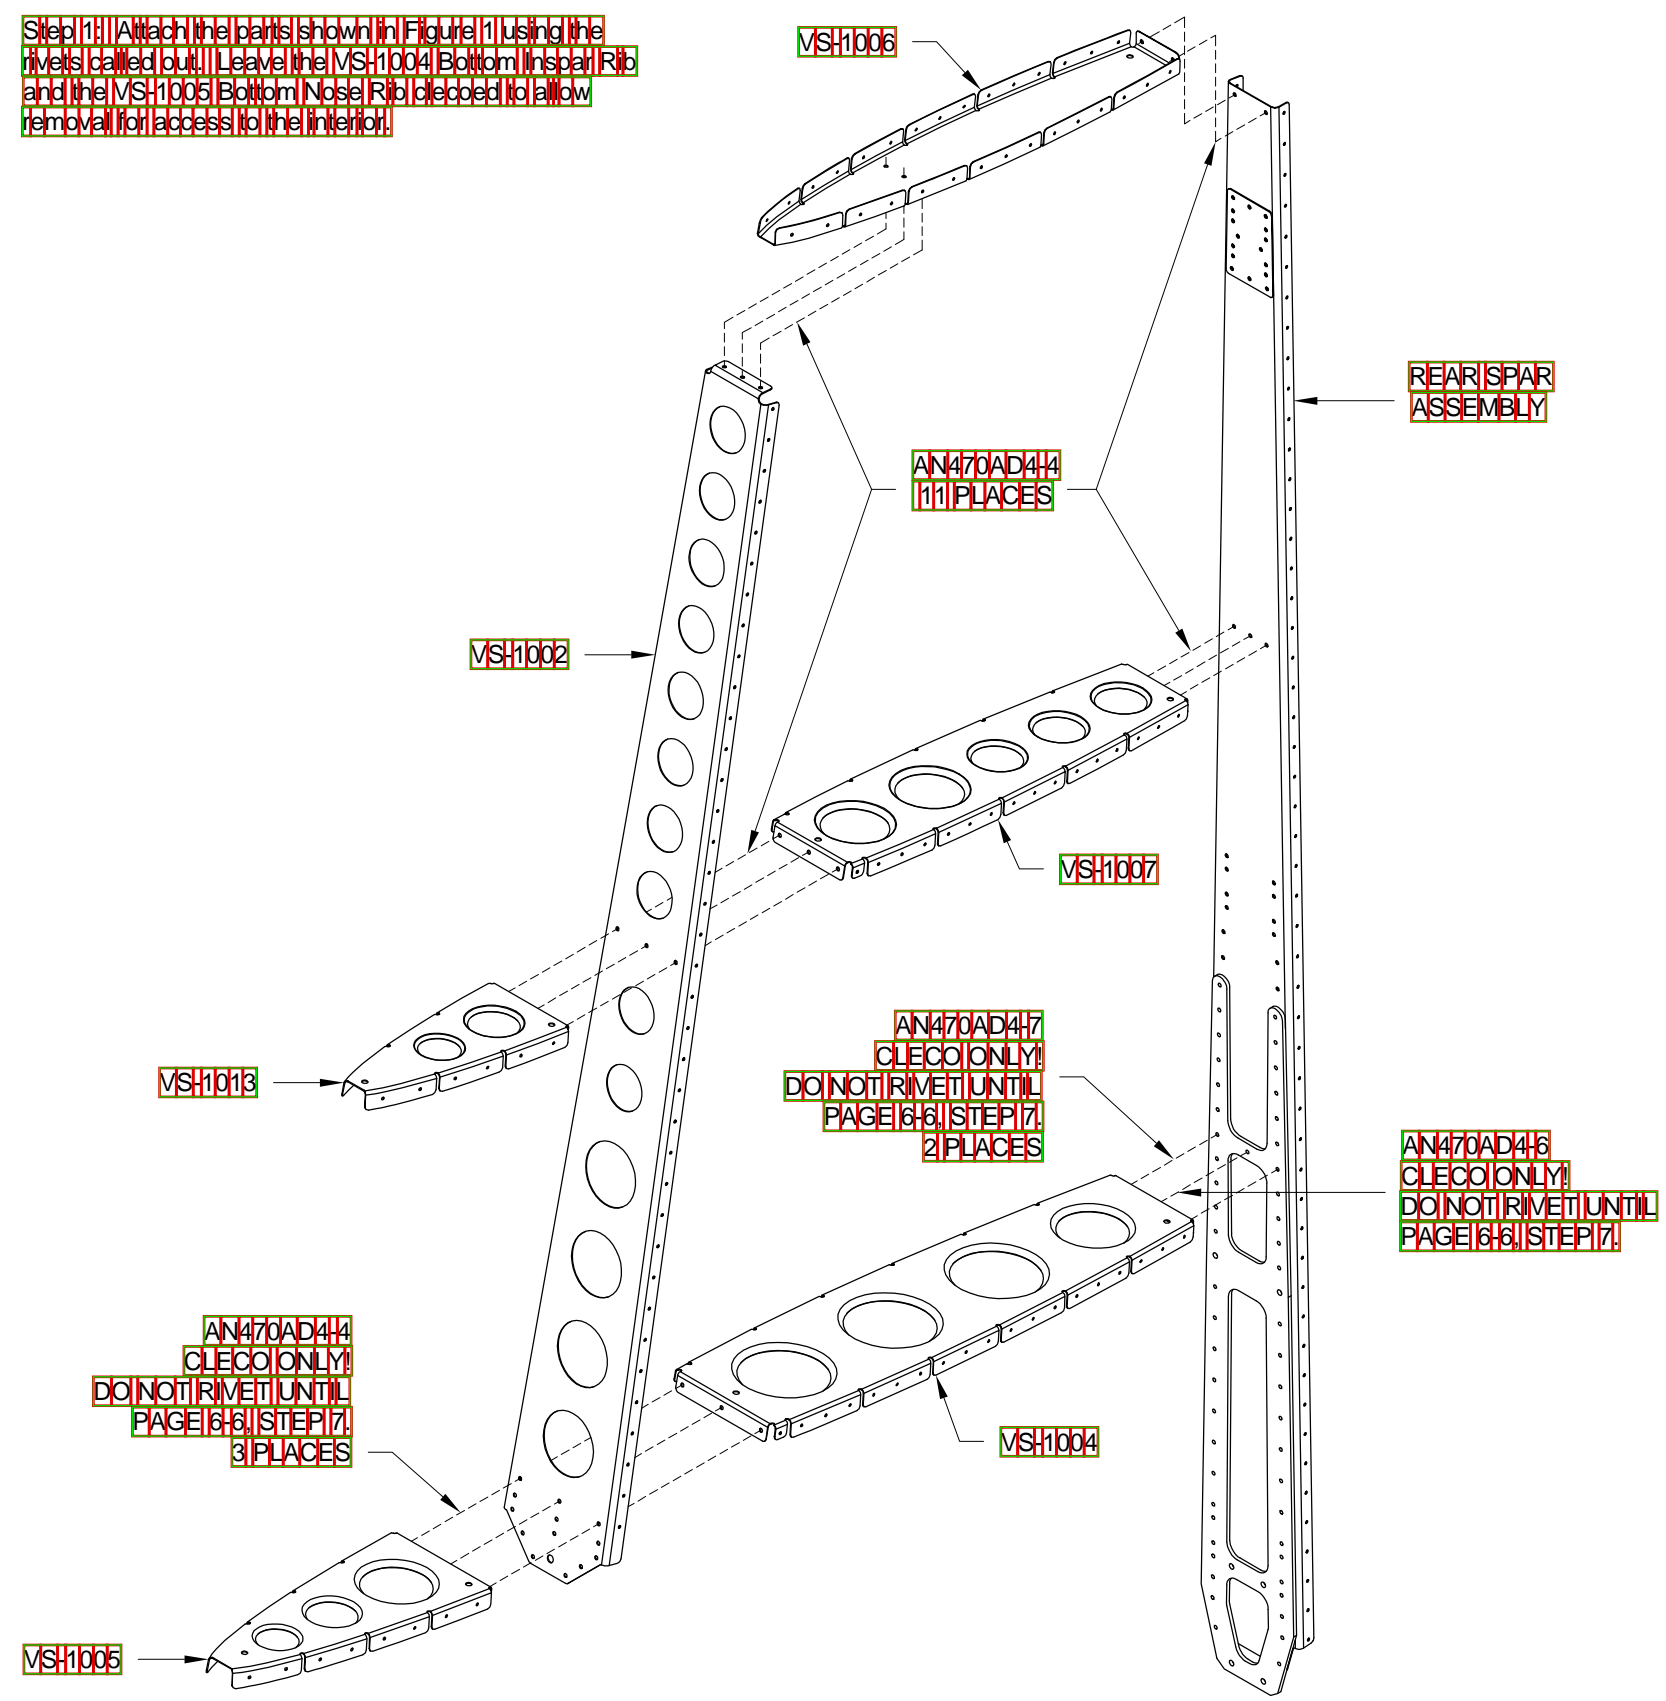

FIGURE 1: RIB RIVETS
Step 1: Attach the parts shown in Figure 1 using the rivets called out. Leave the VS-1004 Bottom In Spar Rib and the VS-1005 Bottom Nose Rib clecoed to allow removal for access to the interior.